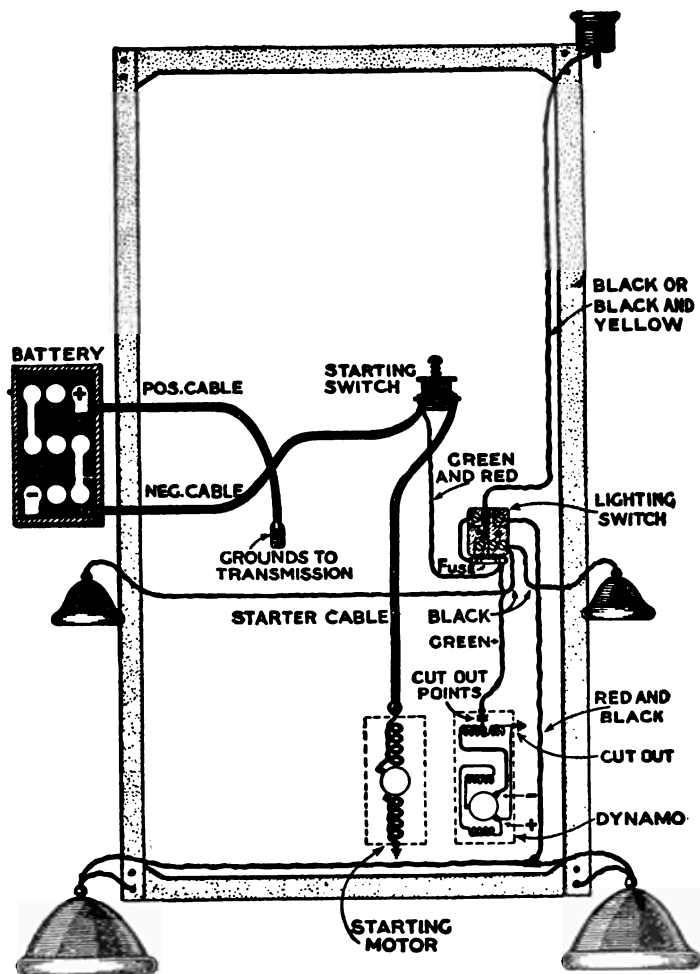

Fig. 392. View of Complete Wiring System Simplified
*Final Connections and Adjustments.* Fig. 391 is a plan view of the chassis, showing the entire system in place. Figs. 392 and 393 show the wiring in plan and in perspective. Drill and attach to the woodwork on the underside of the body *1* three wire clips holding the